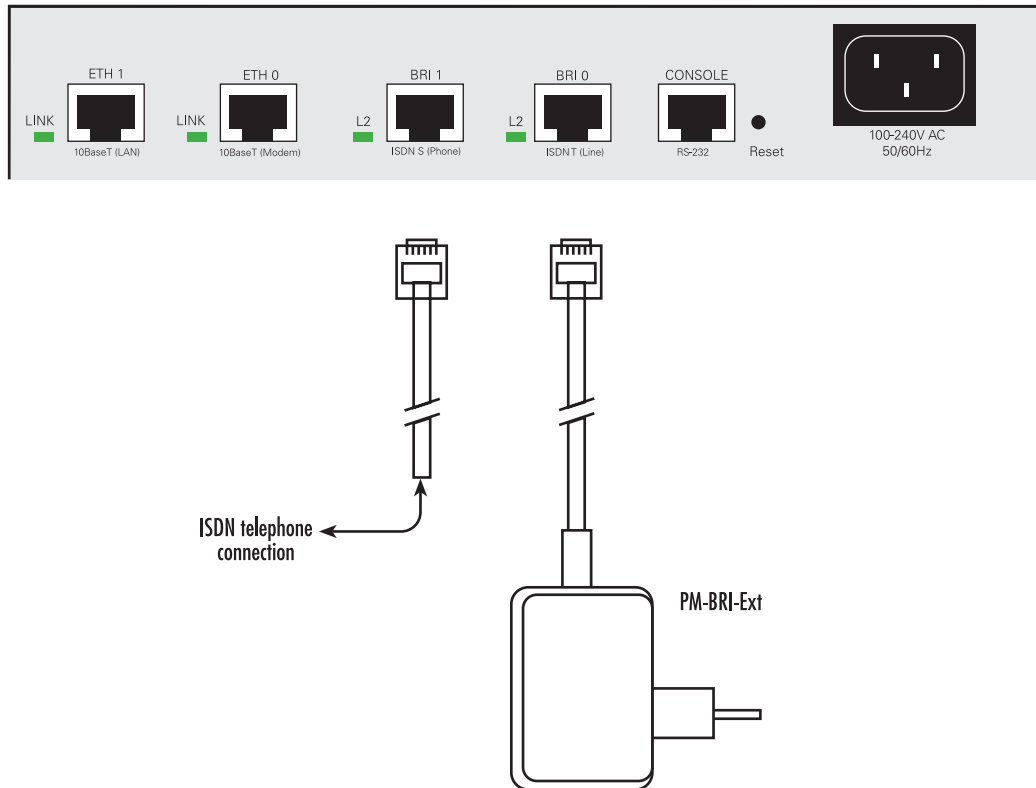

Figure 43. SmartNode 1200 external 40-VDC power supply
- In the absence of an NT the PM-BRI-EXT may be connected directly to the BRI 0 port on the SmartNode (see figure 43). The terminals are connected to the BRI 1 port.